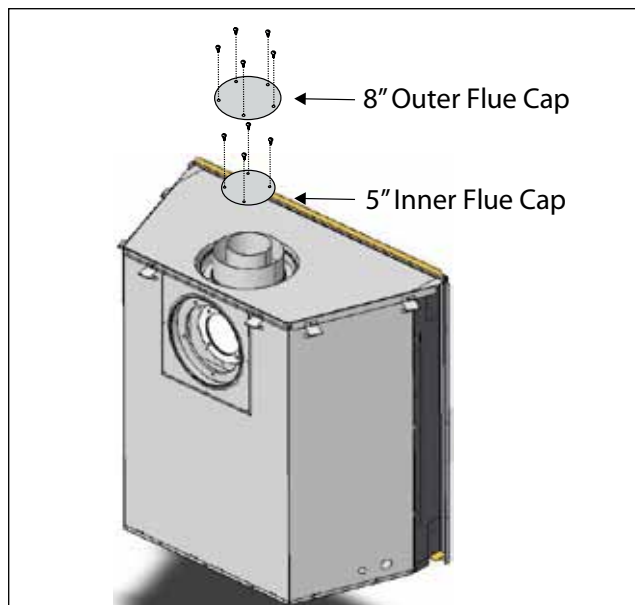

Figure 8a. Flue cap installation for Rear Vented fireplace.
1. Install the 5" inner flue cap on the top flue outlet and secure the cap in place with five screws, as shown in **figure 8a**.
2. Install the 8" outer flue cap on the top flue outlet, and secure it with five screws, as shown in **figure 8a**.